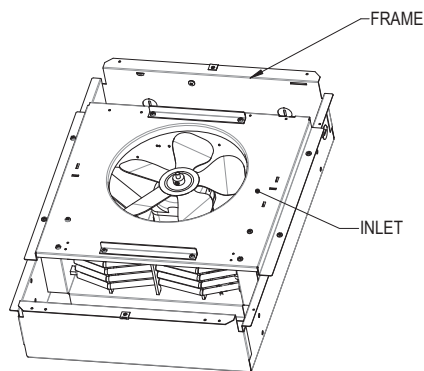

FIG. 5
3. Remove the inlet of the frame (see figure 5) by unscrewing the four (4) screws.
6. Replace the inlet, make the required electrical connections. Insert the sleeve surface into the grille and replace the four (4) screws removed previously (see figure 5).